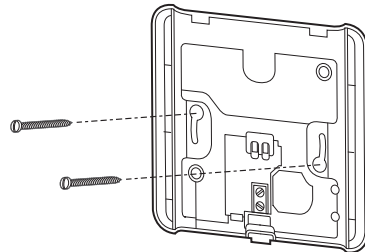

Figure 11 - Install the Room Sensor Base
- Fix the base to the wall at the chosen position, using the plugs and screws supplied with the kit (Figure 11).